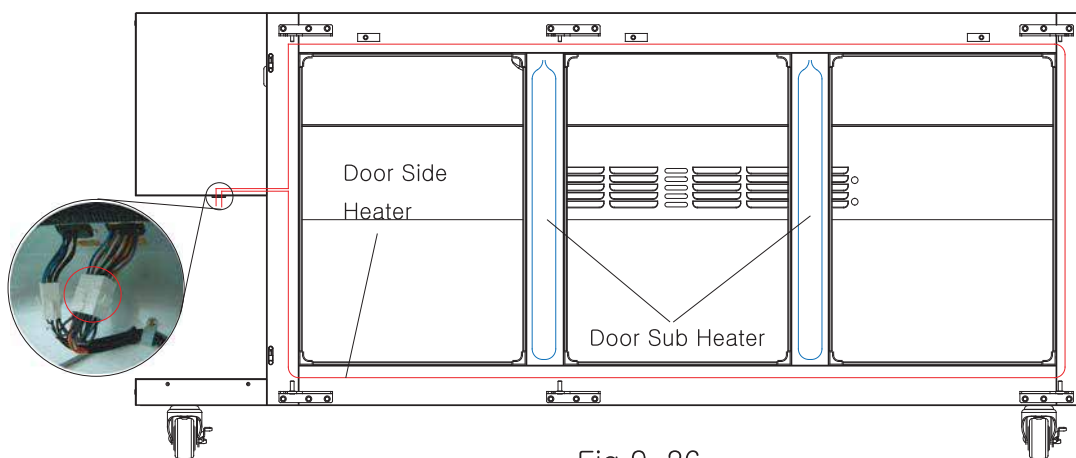

Fig 9-26
6. Refer to figure 9-26 for the positions of door side heater and door sub heater.